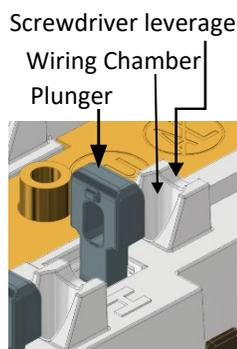

Fig. 1
- Each terminal consists of a plunger, a wiring chamber, and a screwdriver leverage point. See Fig. 1